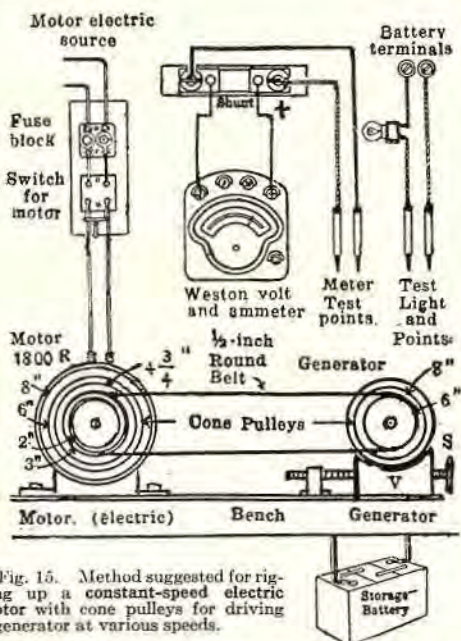
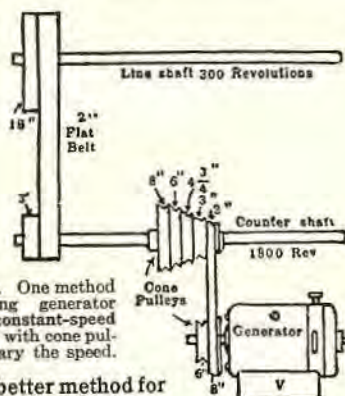

Fig. 15. Method suggested for rigging up a constant-speed electric motor with cone pulleys for driving a generator at various speeds.
Fig. 16. One method of driving generator from a constant-speed line shaft with cone pulleys to vary the speed.
1. By using a $\frac{1}{2}$ h.p. electric motor, (Fig. 15), with a constant speed of about 1,800 r.p.m. and cone pulleys used to vary the speed.
Cone pulleys can be placed on the motor (Fig. 15), to drive the generator, on which there are two sizes of cone pulleys. The cone pulley on the motor,
Some sort of sliding base (V, Fig. 15), with a screw (S) to adjust the tension of the $\frac{1}{2}$ " round belt, should be provided. A clamp, similar to a woodworker's clamp, can be used to hold the generator to the base.
2. Another method of driving the generator (Fig. 16) is by means of a constant-speed line shaft (300 r.p.m.). With cone pulleys to vary the speed.
As we have the same number of revolutions of the countershaft in Fig. 16, as we have of the motor in Fig. 15, we can therefore use the same diameter of cone pulleys.